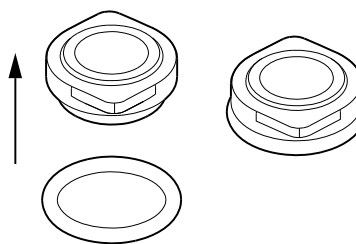

Fig. 10 Fitting the O-ring on the stationary shaft seal part
1. Fit cover plate (pos. 32) and O-ring (pos. 31). Lubricate the O-ring. See section 3. Tightening torques and lubricants.
2. Fit O-ring (pos. 102) on the stationary shaft seal part. See fig. 10. See section 3. Tightening torques and lubricants.